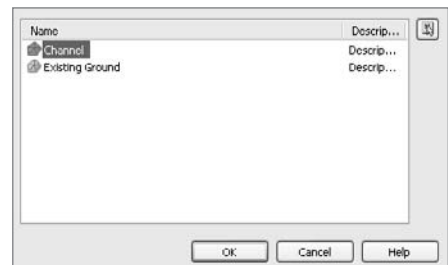

Figure 12.29
4. Right-click the Edits option and select Paste Surface to display the Select Surface to Paste dialog shown in Figure 12.29.
5. Select Channel as shown in Figure 12.29, and then click OK. The surface will update, but not much else will happen. Civil 3D doesn't know how to tie all of this together.